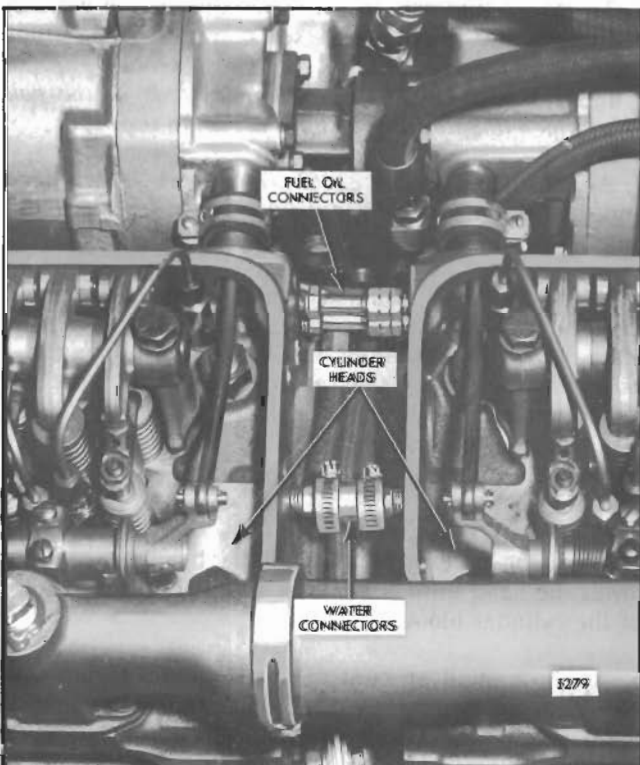

Fig. 12 - Fuel and Water Connections (16V Engine)
**NOTE:** Dry seal connectors are used at the fuel connection (Fig. 12) between the cylinder heads.